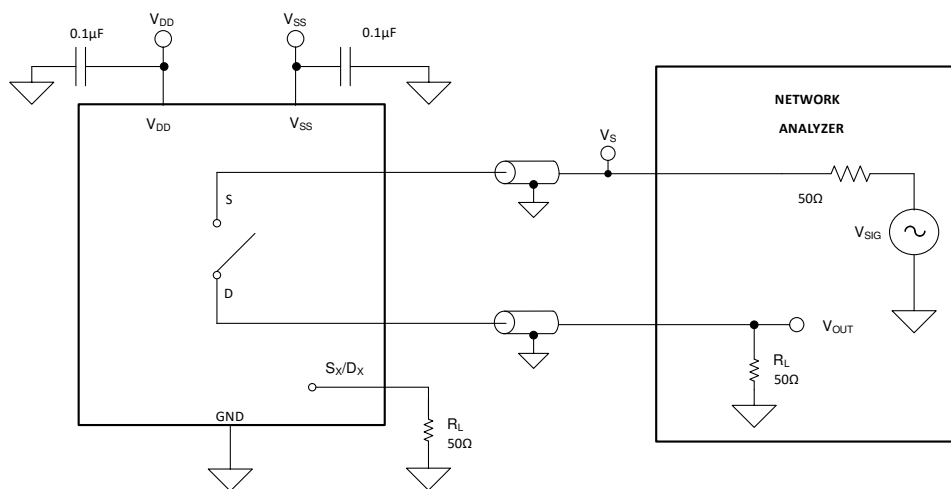

Figure 6-8. Off Isolation Measurement Setup
Off isolation is defined as the ratio of the signal at the drain pin (D) of the device when a signal is applied to the source pin (Sx) of an off-channel. Figure 6-8 shows the setup used to measure and the equation used to compute off isolation.